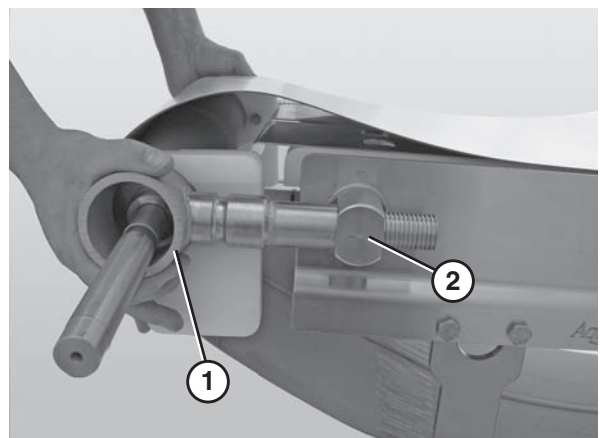

Figure 62
6. Slide the drive tail assembly (**Figure 62, item 1**) out of the take up blocks (**Figure 62, item 2**).